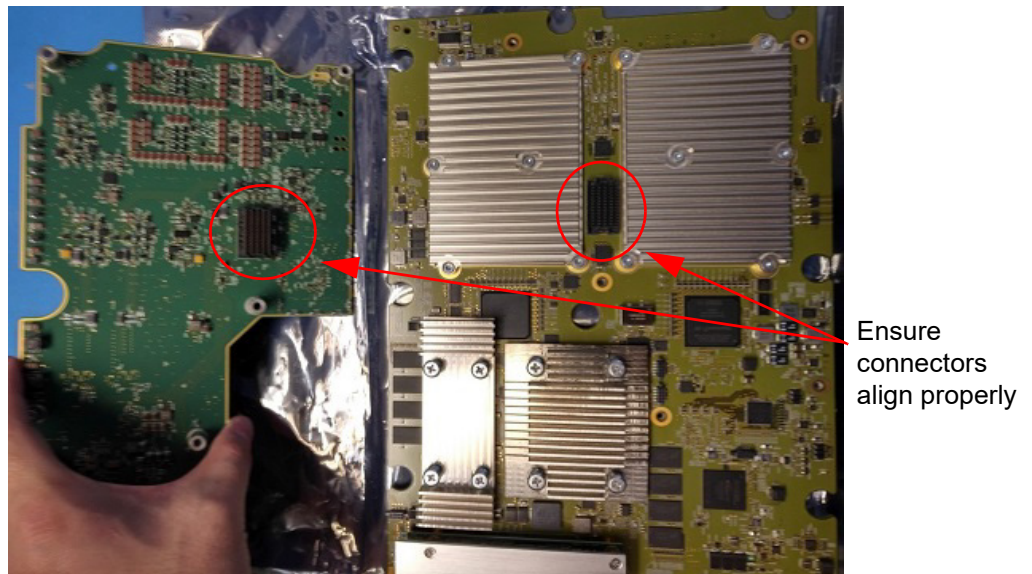

Figure 6.21 Power Supply PCBA Install
- 1 Place Power Supply PCBA onto Main PCBA. Make sure connectors are aligned and press into place per Figure 6.21 on page 62.